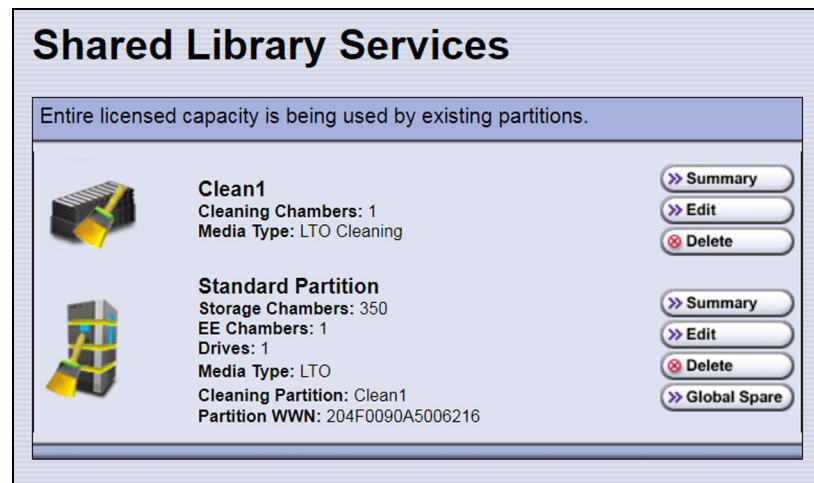

Figure 100 The Shared Library Services showing a cleaning partition and storage partition.
- If you assigned a cleaning partition to the storage partition, the partition icon changes as shown in Figure 100.